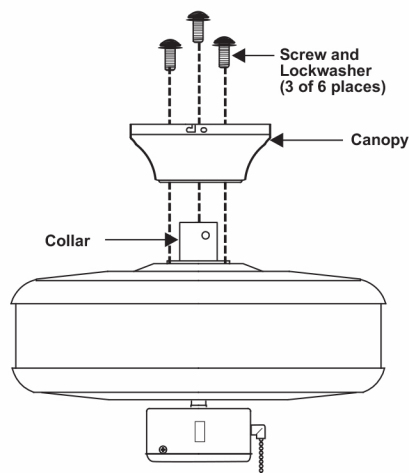

Figure 9
4. Remove three of the six screws and lock washers (every other one) from the collar of top motor. Place the ceiling canopy over the collar at the top of the motor. Align the mounting holes with the holes in the motor and fasten using the screws and lock washers provided. (Fig. 9)
5. Tighten the mounting screws securely. (Fig. 9)